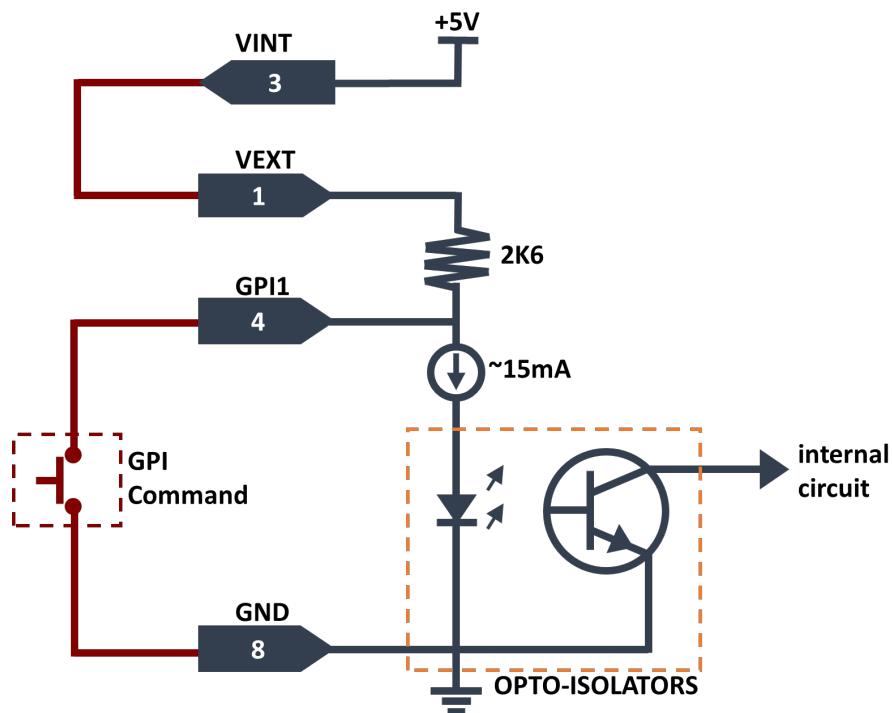
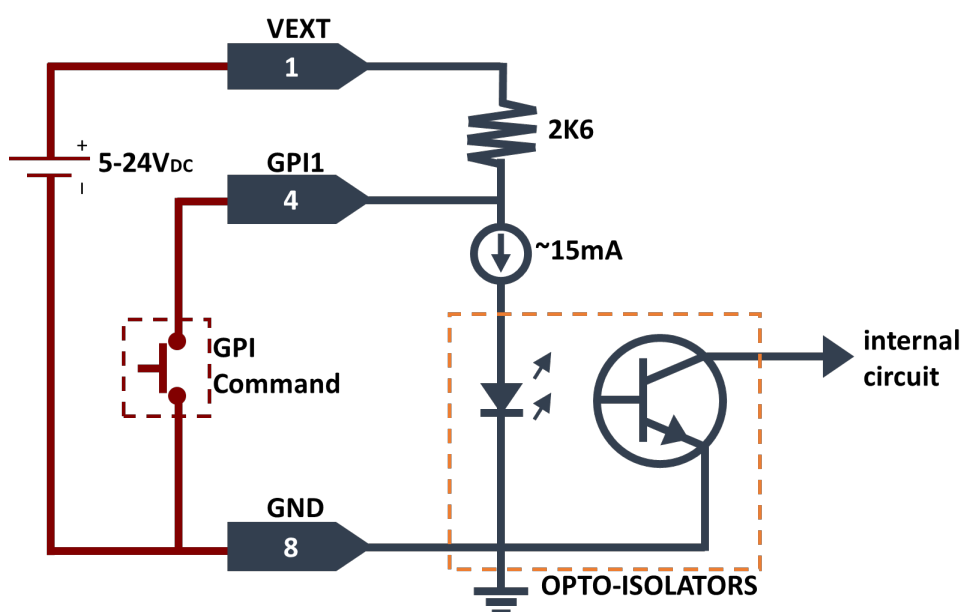
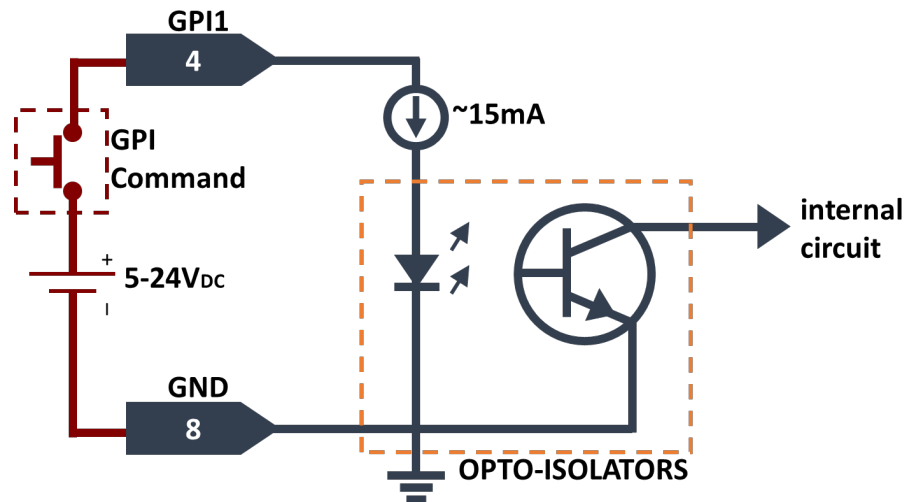

Figure 4-4: Powering the GPI Opto-Isolators from the Router
Figure 4-5: Powering the GPI Opto-Isolators from an External Power Supply
Figure 4-6: Powering the GPI Opto-Isolators from an External Signal
- **Individual Function:** The four GPIs can trigger up to four specific routes each. Once the routes per GPI are set in the Web page (Section 6.9.1) or VistaLINK® (Section 7.8.1), each GPI can be triggered by any of the options depicted in Figure 4-4, Figure 4-5, and Figure 4-6.
There are three methods to trigger the GPIs. The first option, the user can connect the frame supplied by +5V (VINT pin) to the VEXT pin to provide power to the GPIO opto-isolator circuitry. In this configuration, the user can activate the GPIs simply by connecting the GPI input pins to ground (see Figure 4-4). This can be done with a button, switch, relay or an open collector transistor.
Alternatively, an external voltage source may be applied as shown in Figure 4-5: Powering the GPI Opto-Isolators from an External Power Supply. The VEXT voltage must be greater than the voltage supplied to the GPI by at least +5V.
Another option is to power the GPI pin with a signal source as it can be seen in Figure 4-6: Powering the GPI Opto-Isolators from an External Signal.